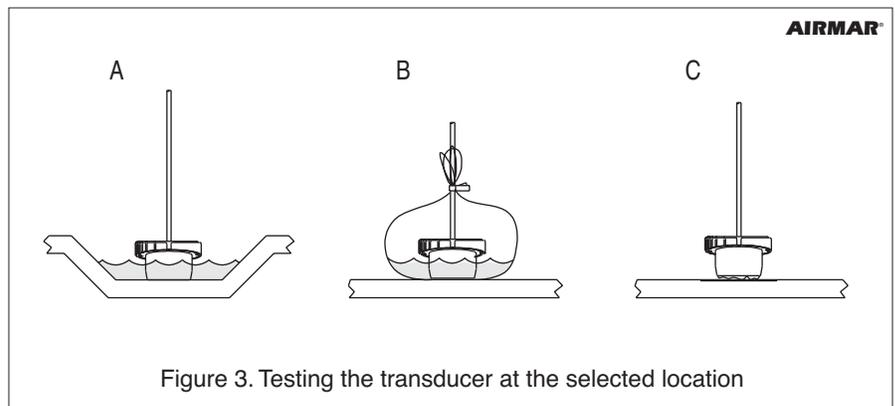

Figure 3. Testing the transducer at the selected location
- A. This method is recommended if the sensor will be located near the stern and the boat has a minimum deadrise angle. Clean away any large build-up of dirt and/or grease using detergent or a weak solvent such as alcohol. Place the transducer against the hull and allow bilge water to cover the surface where they touch (see Figure 3-A).
This method can be used at any location. If the hull surface is not smooth, grind it with a disc sander. Partially fill a thin plastic bag with water, place the transducer inside the bag and close it tightly with a twist-tie. Wet the surface of the hull and press the transducer's active face against it through the bag (see Figure 3-B).
This method can be used at any location. If the hull surface is not smooth, grind it with a disc sander. Coat the active face of the transducer with a water-based lubricant (such as K-Y® jelly). Press the active face against the hull with a twisting motion (see Figure 3-C). After testing, wipe all traces of the lubricant from the transducer's face.